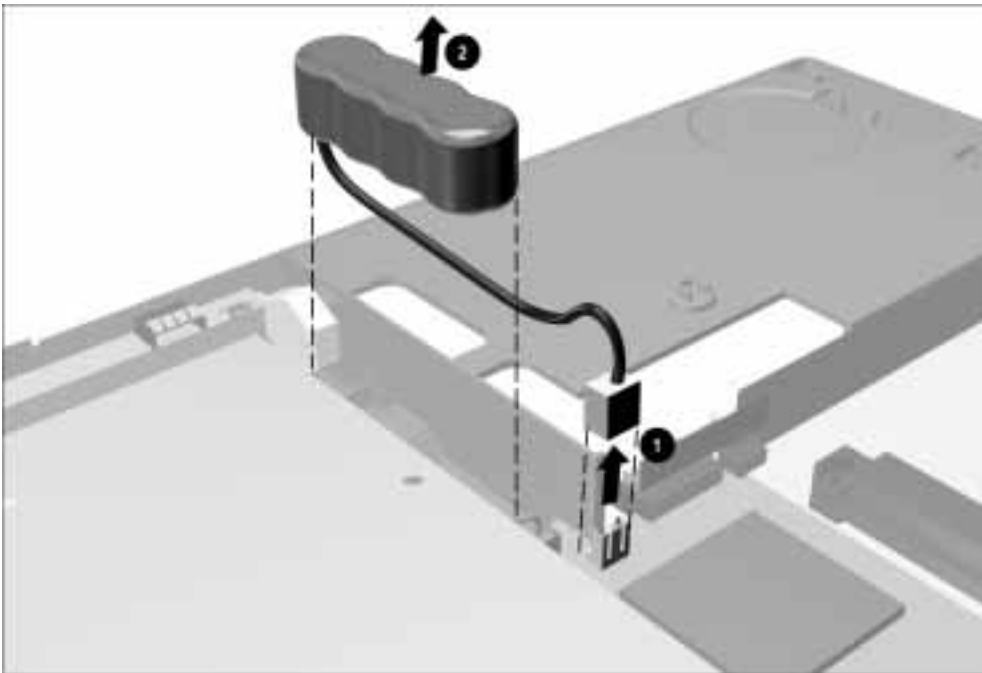

Figure 5-25. *Removing the Auxiliary Battery*
3. Use the connector removal tool to disconnect the auxiliary battery cable from the system board ❶ (Figure 5-25).
4. Lift and remove the auxiliary battery ❷.